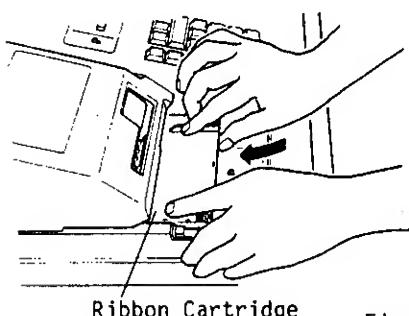

Fig. 3
3. Install a new ribbon cartridge in the reverse order to Step 2 above (Fig. 3).